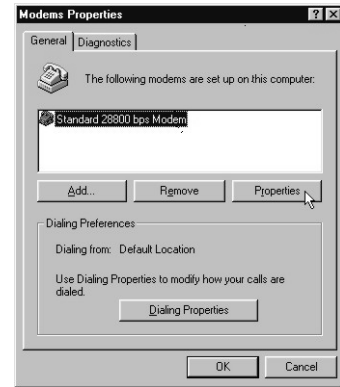

Figure 9 - Modems Properties
8. From the “Modems Properties” window select the “Standard 28800 bps Modem” that was installed. Click on PROPERTIES. (Fig. 9)